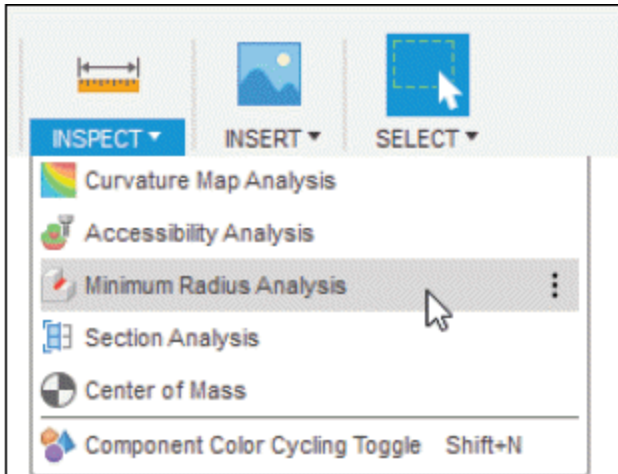
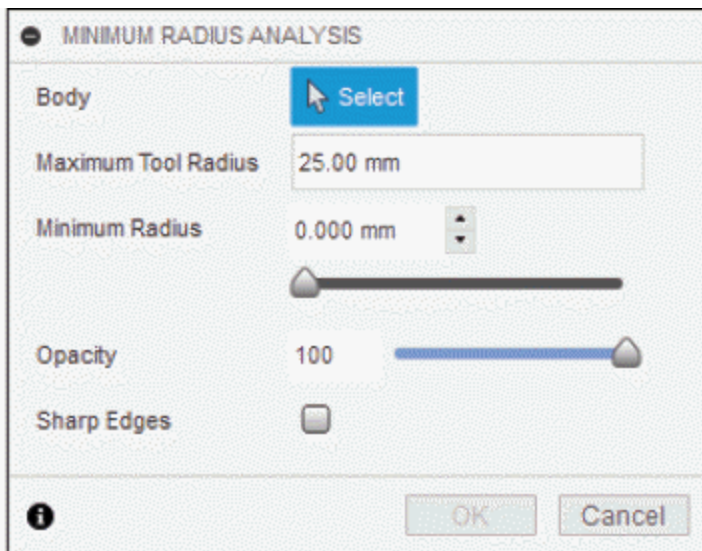

Figure-63. Minimum Radius Analysis tool
Figure-64. MINIMUM RADIUS ANALYSIS dialog box
- Click on the **Minimum Radius Analysis** tool of **INSPECT** drop-down from **Toolbar**; refer to Figure-63. The **MINIMUM RADIUS ANALYSIS** dialog box will be displayed; refer to Figure-64.